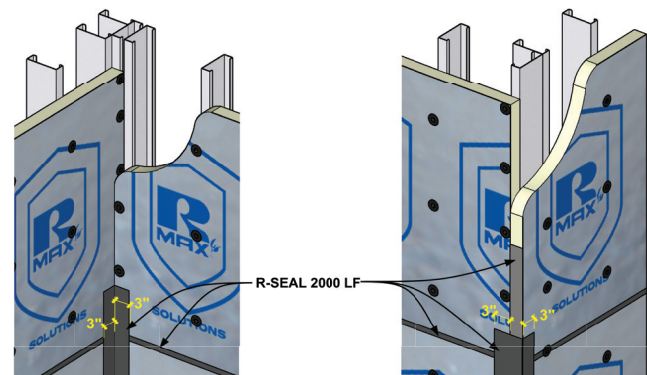

Figure 9
E. Prime exposed foam core at board edges with a light skin coat of R-SEAL 2000 LF (**Reference Figures 9 and 10**).
**Reference Figures 9 and 10.** For washers that fall within the flashed area, fully cover and extend liquid to ensure a minimum of 1" flashing beyond the washer.